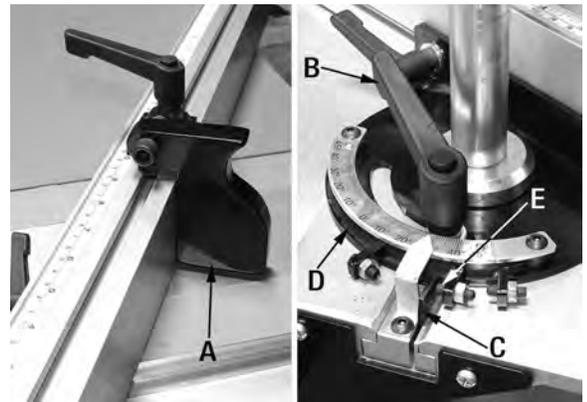

FIGURE 41
3. Install flip stop (A) Fig.41 in the top T-slot of the cross cut fence. Reinstall the plastic end cap.
4. To operate the hold-down and cross cut fence, loosen lock knob (B) Fig.41, pivot the positive stop plate (C) out of the way and then pivot the body (D) to the desired angle and retighten lock knob (B).
5. If you desire a preset positive stop such as 0° or 45° setting, loosen lock knob (B) Fig.41, pivot the positive stop plate (C) out of the way and slightly pivot the body (D). Once you get close to the desired angle, reposition the positive stop plate (C), continue to rotate the body until the positive stop plate comes in contact with the positive stop screw (E) as shown, once the preset angle is set, retighten lock knob (B).